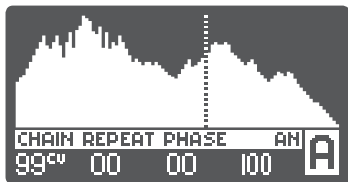

fig. 3: MAIN SCREEN
The blue-illuminated **CHANNEL** button ❶ (lit when active) allows cycling through the channels. The **OLED** display ❷ provides all the necessary visual feedback in real time, for the selected channel, with its name clearly displayed in the bottom-right corner (fig. 3). **NOTE:** whenever the module remains idle for 10 minutes, the screen turns off; simply push or turn anything to re-enable.